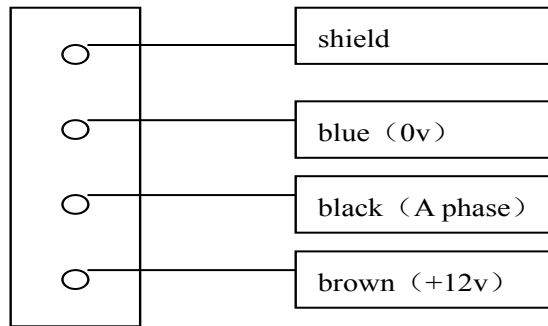

Fig.23
- a) The manual screw may be released (fig.23), the solution is to lock the screw by switching the button clockwise while pressing; Oppositely, you can release it.